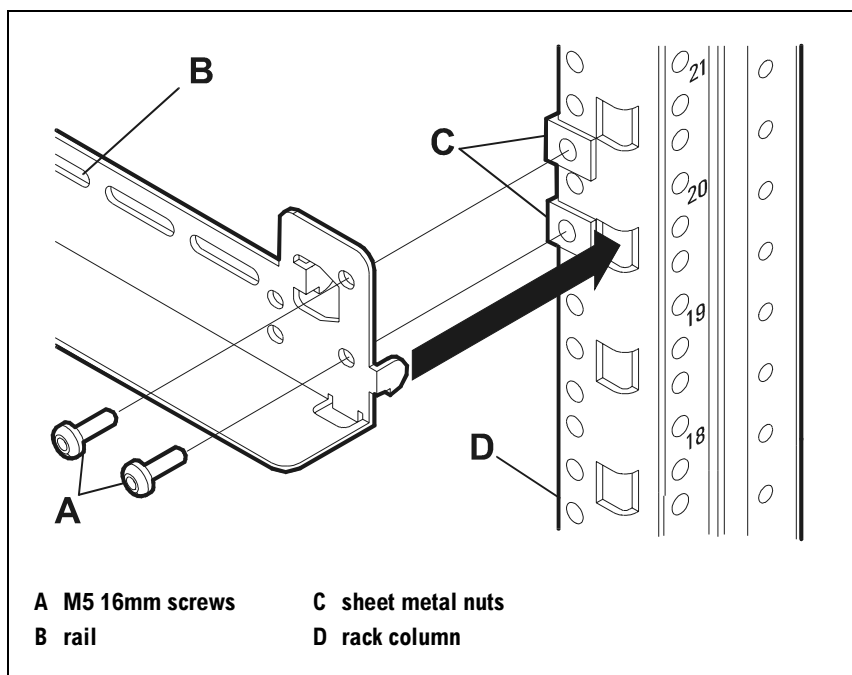

Figure 20 Rail Assembly – Rack Systems/E
4. Install sheet metal nuts (C in Figure 20) at the rail location(s) on all four columns.
5. Insert two screws (A in Figure 20) through each rail end and prepared rack column. Use a Torx T25 screwdriver to tighten the screws securely.